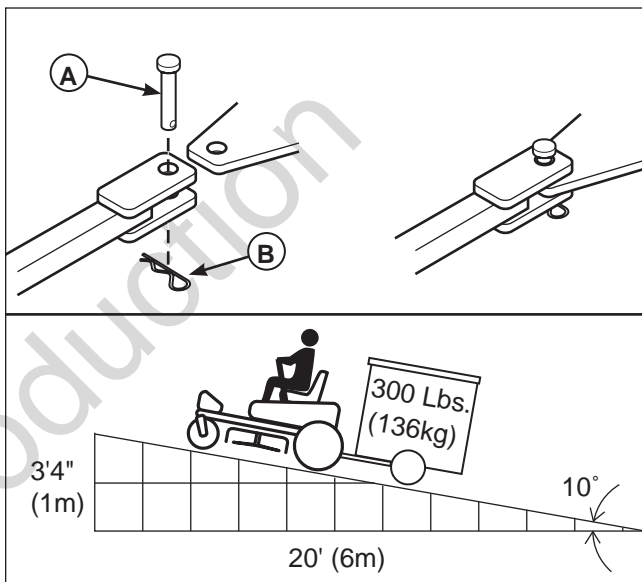

Figure 9. Trailer Weight Recommendations
The maximum weight of a towed trailer should be less than 300 lbs (138kg). Secure the trailer with an appropriately sized clevis pin (A, Figure 9) and clip (B).